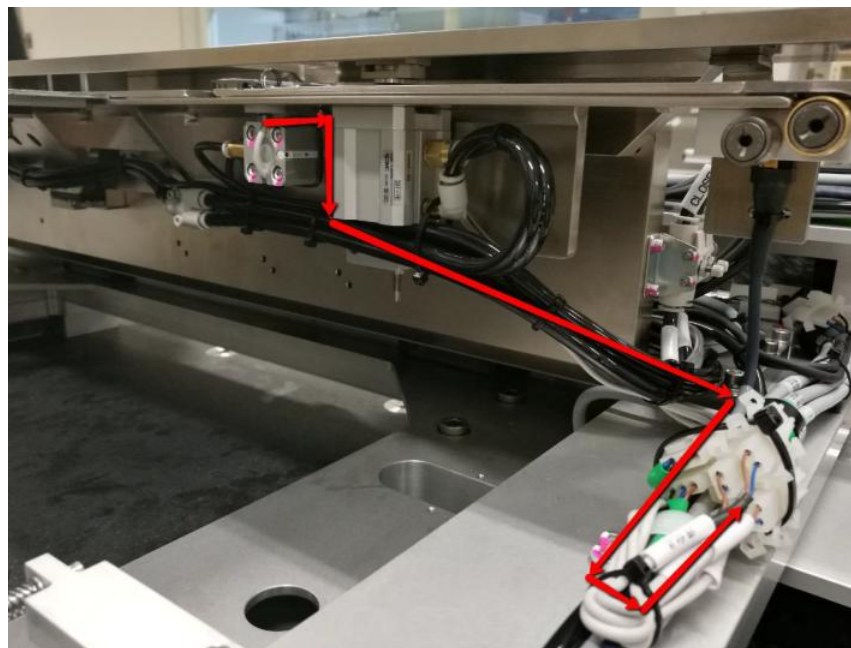

Figure 11 Left PIP In Reed Sensor Routing
4. Route Left PIP In Reed sensor by refer to below routing (Figure 11). Apply necessary cable ties as well